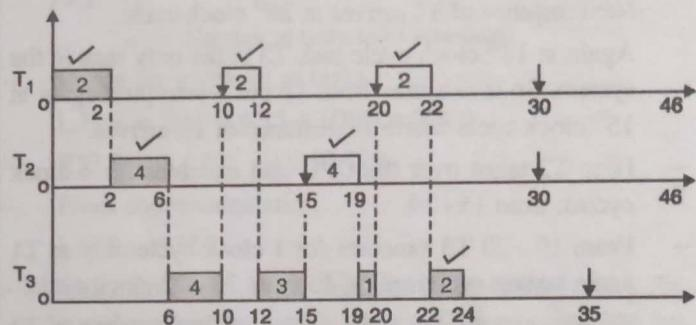

Fig. P. 1.2.1
- As shown in Fig. P. 1.2.1 we have time instance on Y-axis and tasks shown on X-axis.